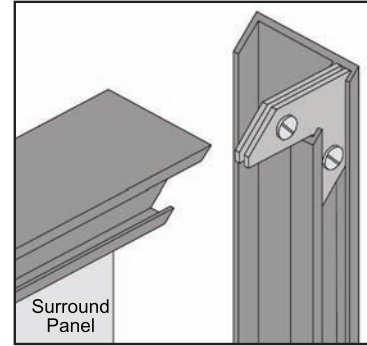
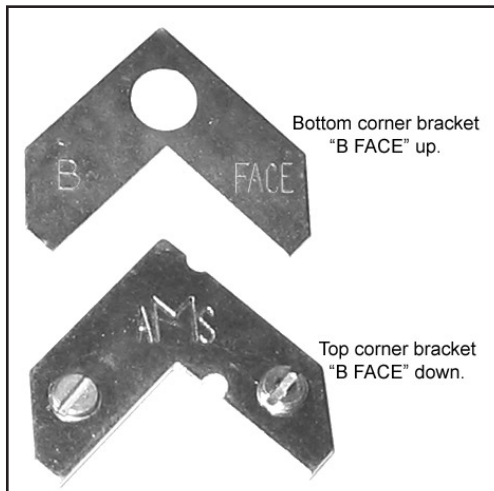

Figure 26: Corner brackets for trim.
Figure 27: Two pieces of corner bracket.
1. Attach one side trim to the top trim using a corner bracket (see Figure 26) to secure pieces together. There are two (2) main pieces to each corner bracket (see Figure 27). When installing the corner pieces into the trim the "B FACE" sides must face each other and the screw heads are to face out. With the bracket in place and the top and a side trim snug together use a flat head screwdriver to turn the two (2) screws in the bracket in to tighten it into the trim.
2. Slide the two (2) attached trim pieces onto the surround panel.